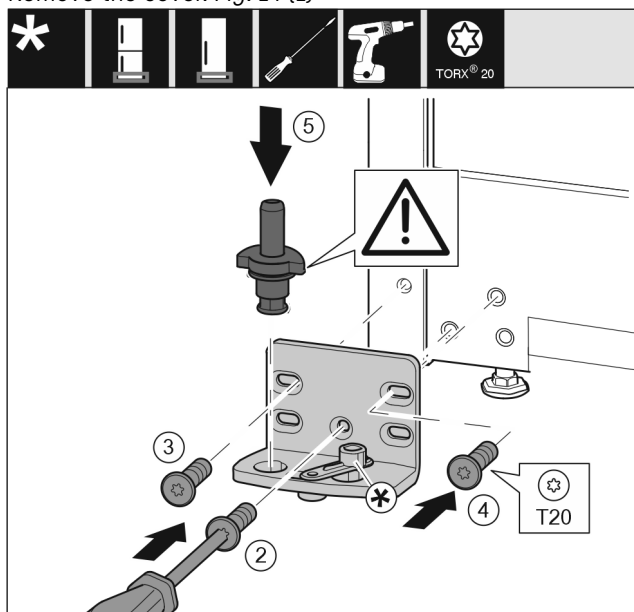

Fig. 15
- Place the bearing bracket on the other side and screw it on with a T20 screwdriver. Start with screw 2 at the bottom in the middle. *Fig. 15 (2)*
- Screw in screws 3 and 4 tightly. *Fig. 15 (3,4)*
- Insert the bearing pin completely. Make sure that the latching lug is pointing to the rear. *Fig. 15 (5)*